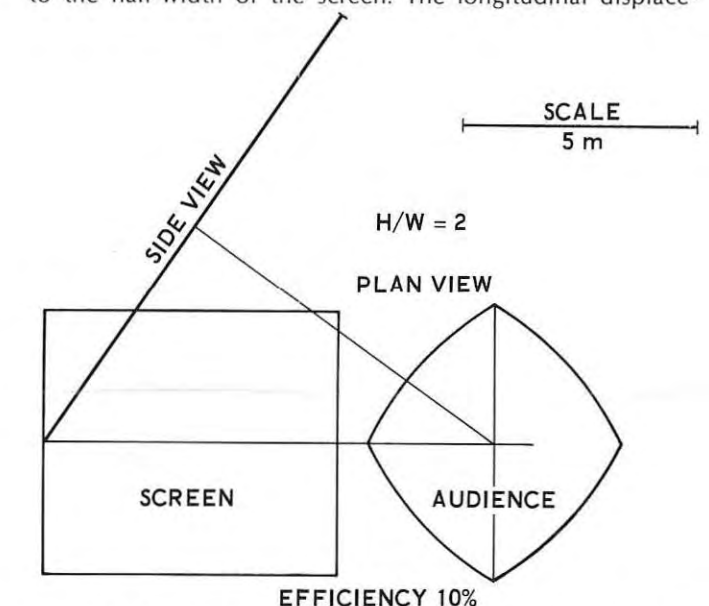
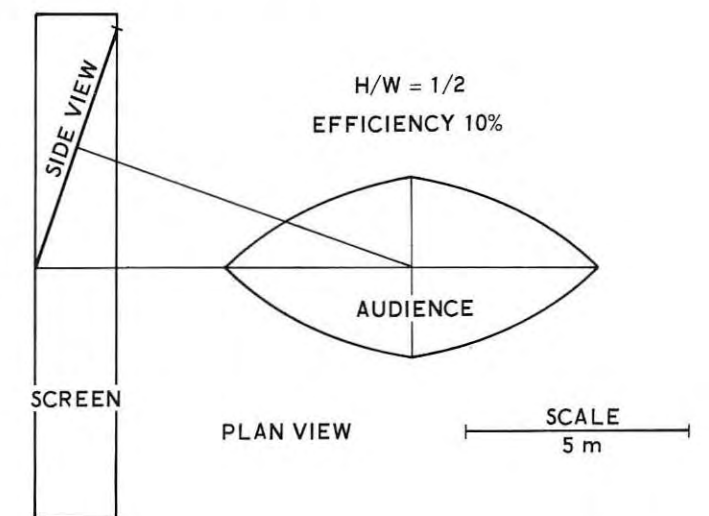
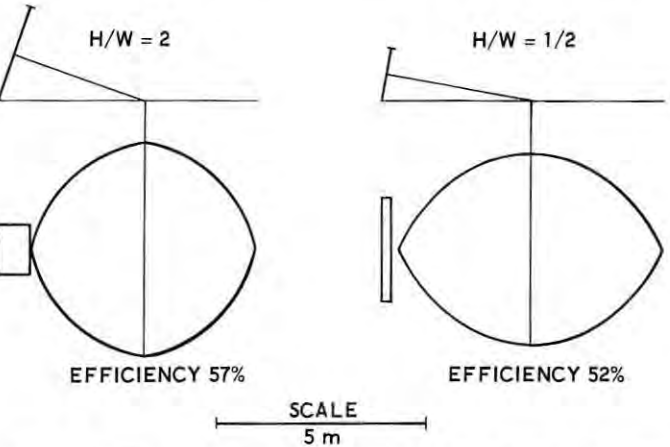
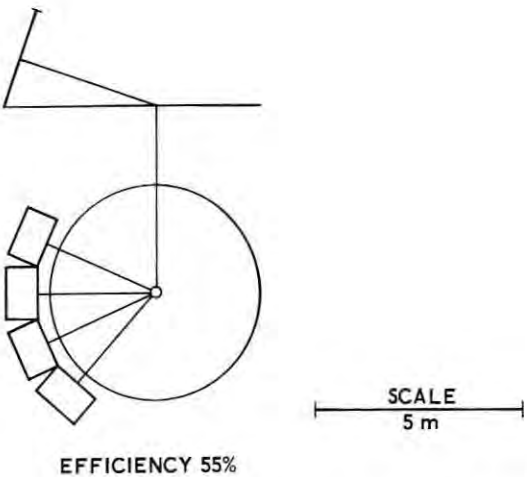

FIGURE 7: Optimum configuration for display utilizing 0.24 ster (60 percent of capacity).
FIGURE 8: Optimum configuration for display utilizing 0.24 ster (60 percent of capacity).
FIGURE 9: Optimum configurations for displays utilizing 0.06 ster (15 percent of capacity).
FIGURE 10: Optimum four-screen display utilizing 0.24 ster (15 percent of capacity).
ment is equal to half the horizontal projection of the screen height, or $b \sin \tau = 3.2$ m. The resulting screen/audience configuration is shown in Figure 7.
If we now determine in the same manner the optimum dimensions for a screen of height/width ratio $1/2$, leaving all other assumptions unchanged, we arrive at the configuration shown in Figure 8. Comparing Figures 7 and 8, we notice an inverse relationship between the width of the audience and the width of the screen. The size of the audience area, however, is approximately the same in both cases. While both configurations may appear highly undesirable, they do represent optimum designs for the very high display utilization assumed.
In Figure 9, drawn to the same scale as Figures 7 and 8, the number of symbols has been reduced to one half in each dimension. If efficiency were independent of utilization, the required screen area would vary in proportion to the utilization, and would decrease to one fourth. Actually the efficiency improves more than five times, from 10 percent to 57 percent for the screen of height/width ratio 2, and from 10 percent to 52 percent for the screen of height/width ratio $1/2$. As a result, the screens of Figure 9 are more than twenty times smaller than the screens of Figure 7 and Figure 8, which were designed for four times higher utilization.
The examples of Figures 7, 8, and 9 suggest that displays requiring effective fields comparable with the capacity of a single screen should be broken up into several displays with a common audience area.
Figure 10 shows as an example a four-screen display, derived from the configuration shown in the left half of Figure 9. The screens, of height/width ratio 2, are linked at the upper corners and so arranged that their nearly circular audience areas are concentric. The resulting common audience area differs very little from the inscribed circle of radius R_0 shown in Figure 5. Disregarding that difference and calculating R_0 from Equation (7) for the dimensions pertaining to the case of $H/W = 2$ of Figure 9, we find a common audience area of 19 m^2 . To match the 20 m^2 audience area of the other examples, the linear dimensions of Figure 10 have been scaled up by the factor $\sqrt{20/19}$.
The four-screen system designed in this manner has 55 percent efficiency. It conveys the same amount of information as the single-screen displays of Figure 7 and Figure 8 with less than one-fifth the total screen area.